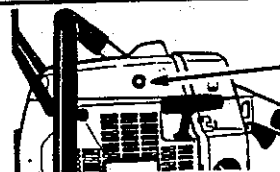

Figure 13
- d. On Model 505 ONLY, depress the decompression button. Figure 13. The decompression button resets automatically when the engine starts.